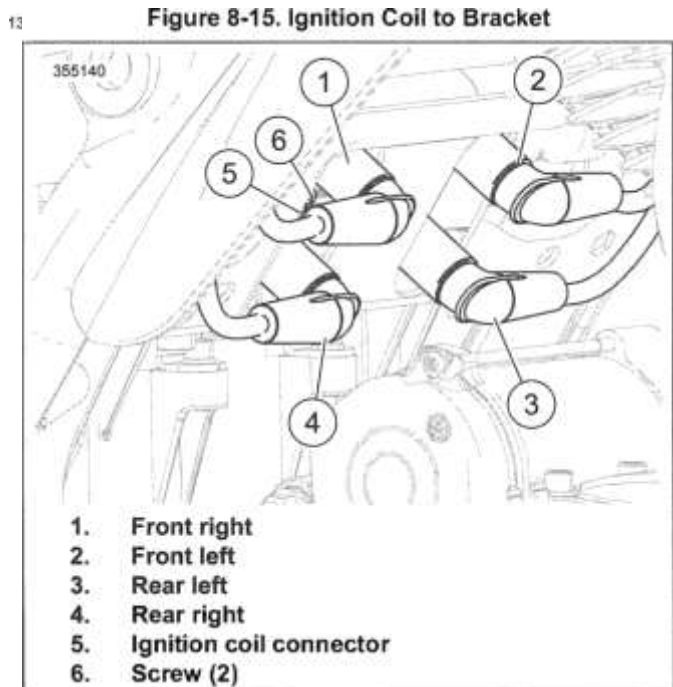
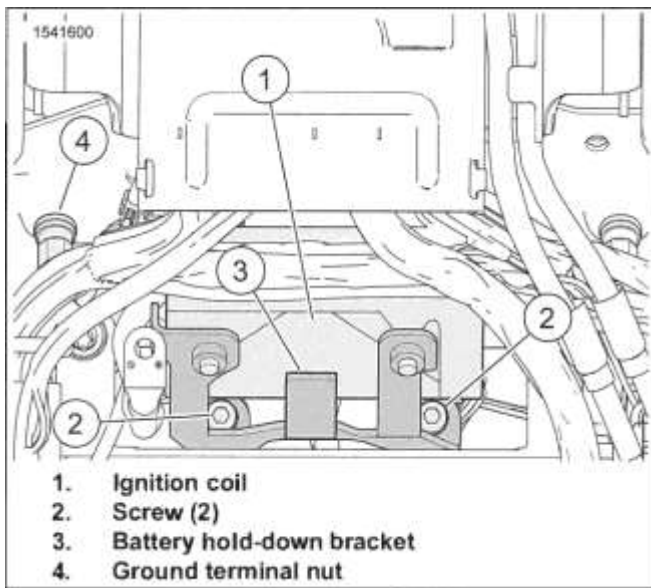

Figure 8-16. Ignition Coil Connections
Figure 8-17. Ignition Coil Mount
1. See Figure 8-16. Remove spark plug wires (1-4) from ignition coil towers.
2. Remove ignition coil connector (5).
3. See Figure 8-17. Remove screws (2).
4. Loosen ground terminal nut (4).
6. Remove battery hold-down bracket (3) and ignition coil (1).
6. See Figure 8-16. Install ignition coil connector (5).
3. See Figure 8-17. Place ignition coil (1) and battery hold-down bracket (3) into position.
4. Install screws (2). Tighten.